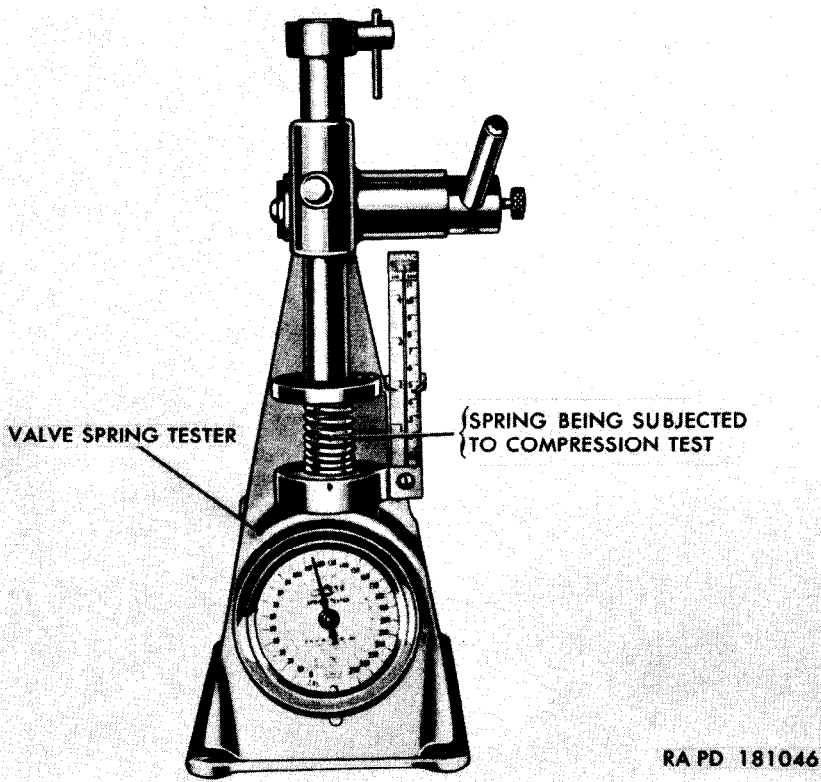

Figure 35. Checking valve spring.
- (1) *Cylinder head.* Inspect the cylinder head for cracks, deep gouges on the finished surfaces, or other damage which would make the cylinder head unfit for use. Inspect all tapped openings and mark for repair (*c* below) any damaged threads or broken stud ends.
- (2) *Intake valves.* Replace any worn, pitted, or corroded valves that cannot be cleaned with a wire brush. Replace any valves whose seats are pitted, burned, or corroded so badly that they cannot be cleaned with a light cut on the valve refacing tool (*c*(2) below). Visually inspect the valve stems for marks of scoring or abrasion, and replace the valves if such marks are present. Replace any valves with bent stems. (Bent valve stems will become immediately apparent when the valve is mounted in the valve refacing machine (*c*2(2) below). Check the diameter of the valve stem at two or three places along the length of the stem with a micrometer. If any of the measurements are less than those specified in repair and rebuild standards (par. 149*a*), replace the valve.
- (3) *Intake valve springs.* Visually examine the springs and replace any springs which are deformed or obviously damaged. Measure the overall free length of the springs and replace any that do not measure $1\frac{31}{32}$ inch. Check each valve spring in a valve spring tester (fig. 35). If the tester dial indicator registers less than 70 psi when the spring is compressed to $1\frac{1}{16}$ inch, the spring must be replaced.